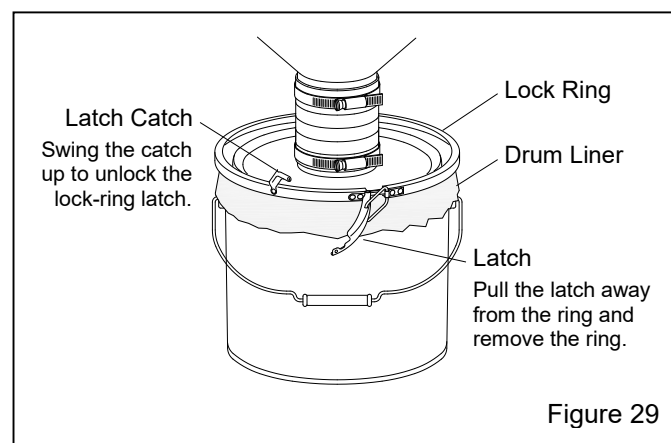

Figure 29
6.1.4.2 Turn off the exhauster and unlatch the lid's lock ring from the dust container, as shown in Figure 29.